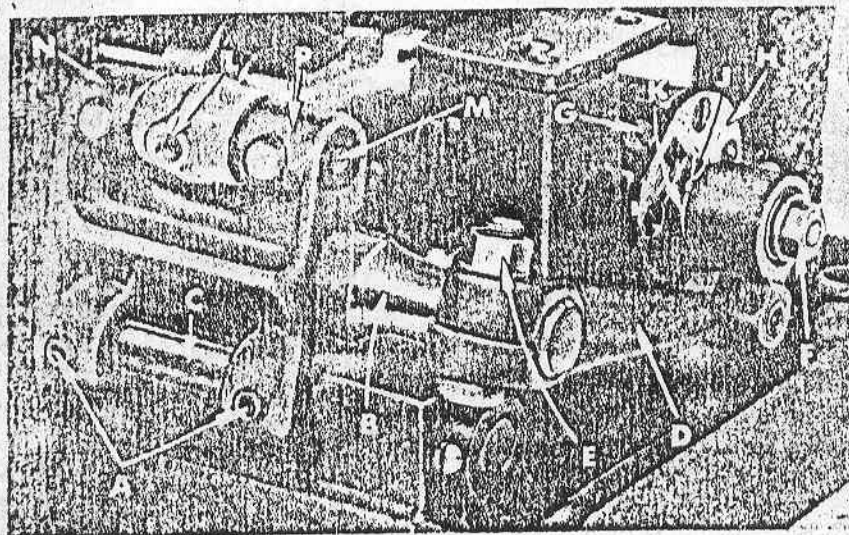

Fig. 11
Right to left adjustment can be made by loosening screws (A, Fig. 11) and slightly move feed rocker (B) on feed rocker shaft (C) as required, then retighten screws. Check to ensure that feed rocker arm (D) does not bind after adjustment.
Forward or rearward centering of feed dog can be accomplished by loosening nut (E, Fig. 11), move feed rocker (B) as required and retighten nut.
Set the stitch to required length. This is accomplished by loosening lock nut (F, Fig. 11) $1/2$ turn, (it has a left hand thread) on the end of the stitch regulating stud and turning stitch adjusting screw (G) located under the left end of the cloth plate in the head of the mainshaft (H), which is marked with "L" and "S". Turning the screw in a clockwise direction shortens the stitch (moves stitch regulating stud toward the "S") and turning it in a counterclockwise direction lengthens the stitch (moves stitch regulator stud toward the "L"). Retighten the lock nut securely. To prevent destructive damage to the feed drive bearing, key screw (J) must engage the "U" shaped key slot in ferrule (K).
The feed rocker assembly may require lubrication and repair after years of operation. This can be accomplished as follows: Loosen nut (E, Fig. 11) and remove nut (F). Remove feed rocker arm (D) from machine by rocking slightly. Loosen screws (A) and remove stop collar on right end of shaft (C). Shaft can now be withdrawn. Loosen Allen screw (L) and remove shaft (M). Now repack bearings.
When packing bearings, parts must be clean and grease should be applied directly from the tube to avoid contamination. Tube of grease can be supplied under part No. 28604 P. Greased bearings are located at (N, P, Fig. 11). If grease sealed bearings are replaced, they should be pressed in flush with the casting. To assemble, start tapered end of shafts first, twisting slightly when entering the grease seals to prevent damage. Check for proper adjustment of feed dog as described under the "Feed Dog Settings". Also check to see that there is no binding at any point.